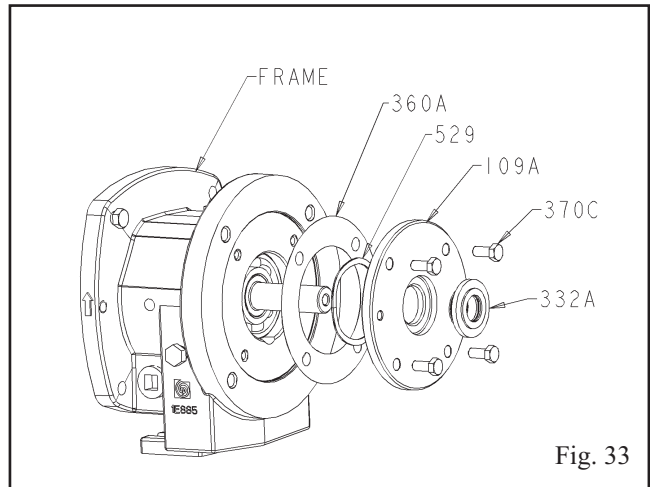

Fig. 33
10. Remove bearing end cover screws (370C) and bearing end cover (109A) (Fig. 33).
11. Remove wavy spring washer (529) and end cover gasket (360A) (Fig. 33).
13. Remove labyrinth oil seals (332A and 333D) (Fig. 33 and 34).